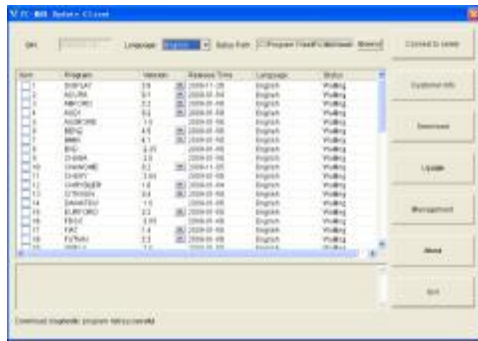

Fig2-3 Program list interface
(4) After login succeeds, the diagnosis program for the different manufacturers will be displayed as shown in Fig2-3, please wait for a short time for complete download.
- (1) Click on the button **[Connect to server]** in the interface shown in Fig.2-3 to enter the interface shown in Fig.2-4.